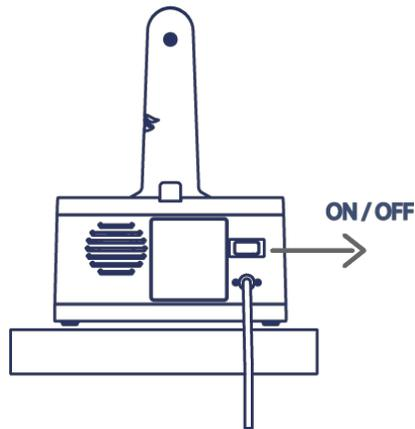

Figure 14 – UltraEzAir® Power Switch
1. Flip the power switch of the Base to the ON (I) position (Figure 14).